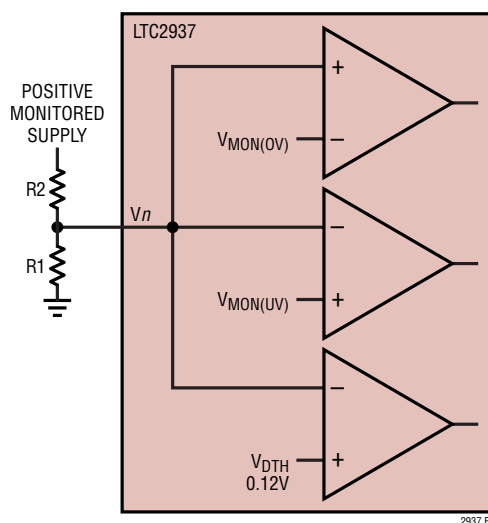

Figure 11. Configuring Custom Positive Thresholds (Operating in the Positive Adjustable Range)
For positive voltage sensing applications, use Figure 11 as a configuration reference. For example, assume a positive input voltage of +15V applied to the top of R2, with a desired UV threshold at 14.3V ($V_{TH(UV)}$). Use the V_RANGE command to select the Positive Adjustable Range. When the input voltage is 14.3V we choose the Vn input to be $V_{MON(UV)} = 1.0V$ (somewhat arbitrarily, for numerical simplicity). $V_{MON(UV)} = 1.0V$ is a code of $uv_threshold_n = 0xCD$ (205). The resistor ratio, $R2/R1$ is easily determined by the equation:
After selecting external resistors, configure the OV thresholds. Following the positive adjustable example of Figure 11, the monitor comparator OV threshold is determined from:
Applying values from the example using Figure 11, the discharge threshold is: